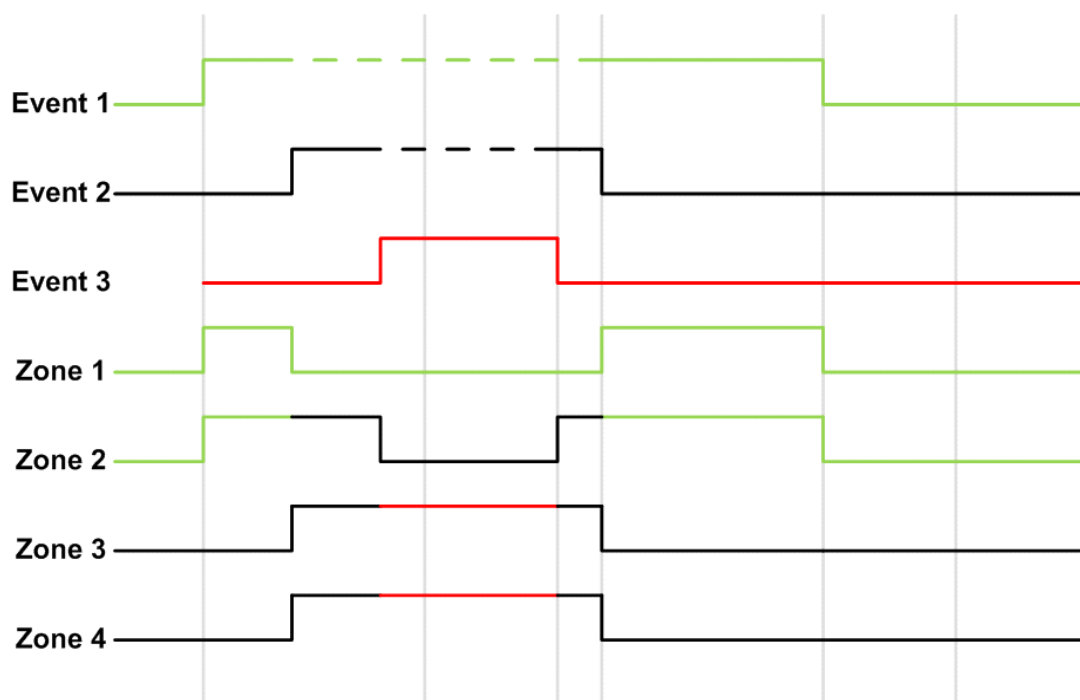

Figure 4: Chronogram with 3 events in Cancel All mode
- Figure 4: in Cancel All mode.